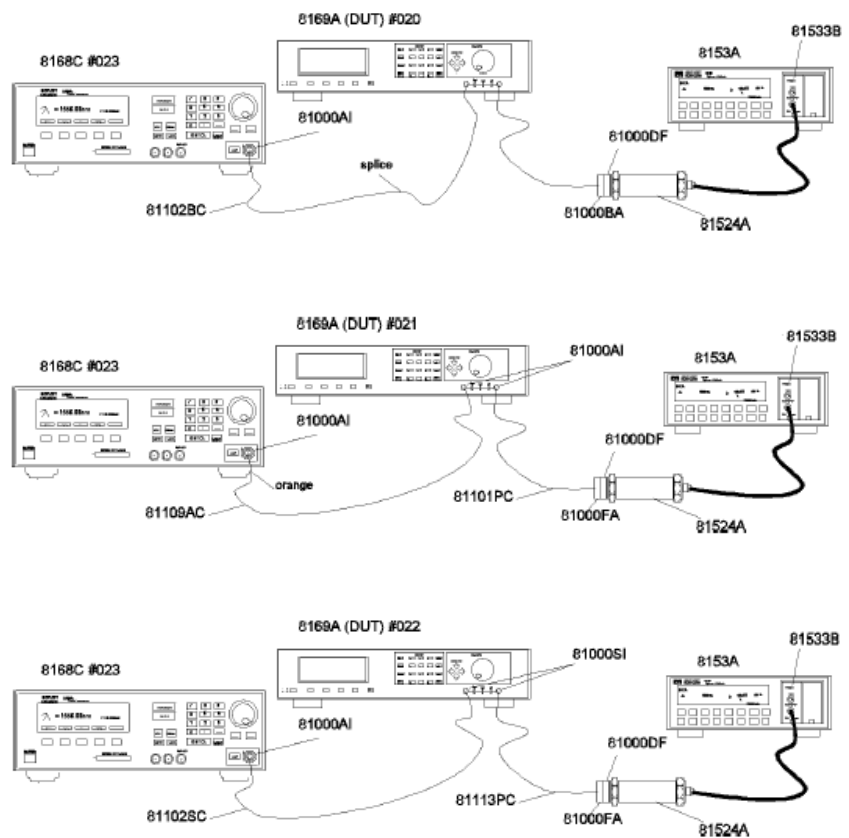

Figure 25 Test Setup for Measuring the Insertion Loss
- 2 Set up the hardware as shown in Figure 25 .